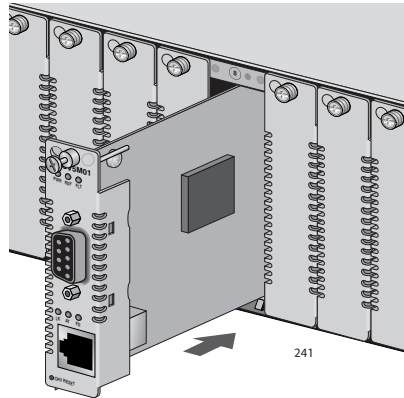

Figure 50. Inserting the AT-CV5M01 Management Card
- Slide the management card into the slot, as shown in Figure 50, until the front of the card is flush with the front of the chassis.